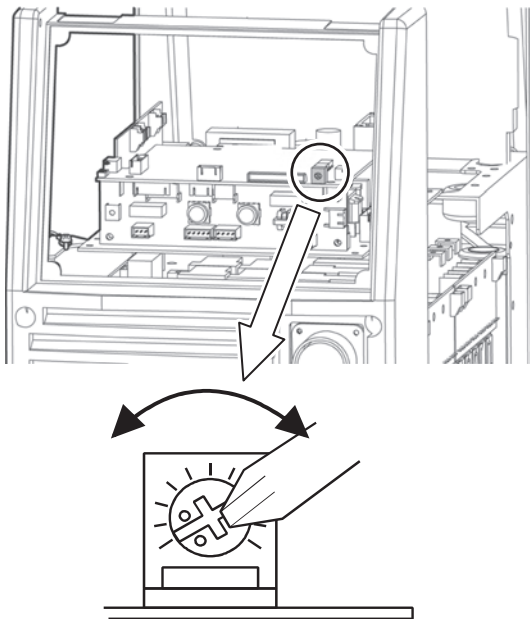

Figure 7-3: VRD ON/OFF Step D
- d. Turning the VRD ON/OFF (see Figure 7-3).